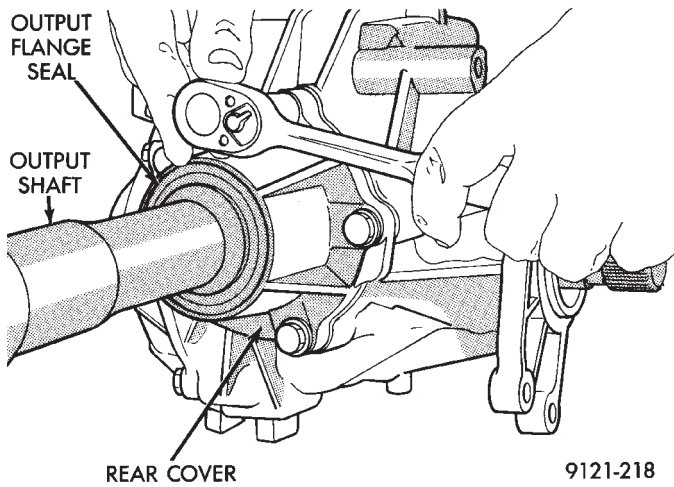

Fig. 1 Rear Cover Bolts
- (1) Raise vehicle on hoist.
- (2) Remove rear cover retaining bolts (Fig. 1).